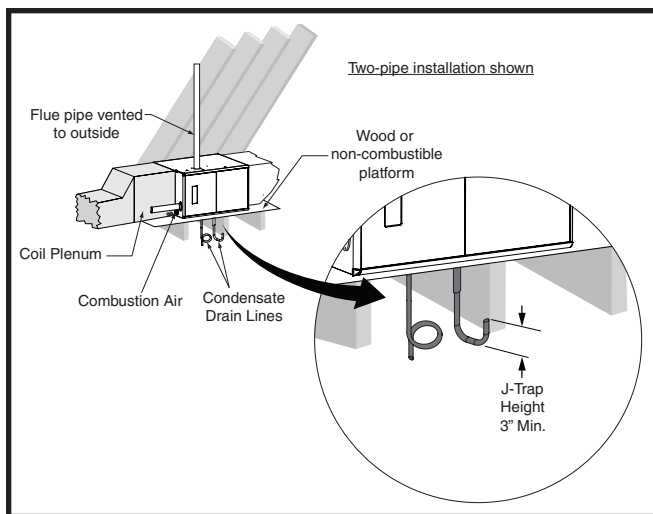
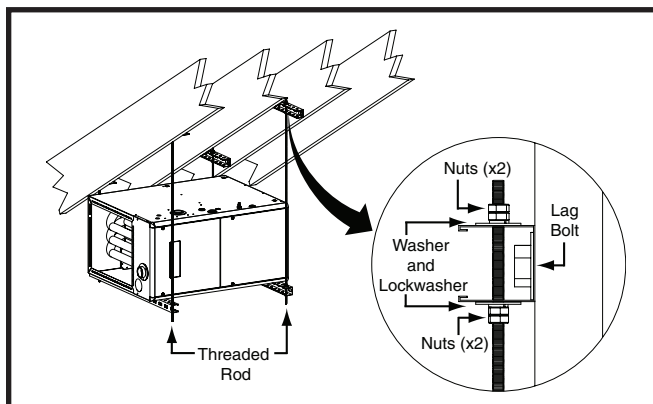

Figure 11. *SC & *SD Horizontal installation on a Platform
Figure 12. *SC & *SD Horizontally Suspended in an Attic
For Installations where there is limited clearance for the J-Trap (such as an attic where it may be installed between ceiling joists), either side of the J-Trap can be shortened to a minimum of 3 Inches. See Figure 11 \(page 15\).
*SC & *SD series gas furnaces can be installed horizontally (Figure 11) in an attic, basement, crawl space or alcove. It can also be suspended from a ceiling in a basement or utility room in either a right to left airflow or left to right airflow as shown in Figure 12 (page 15).
If installing the furnace with an evaporator coil (in an attic), it is required that a drip pan be placed under the furnace. If the installation is on a combustible platform as shown in Figure 11, it is recommended that the drip pan extend at least 12 inches past the top and front of the furnace.
If suspending the furnace from the ceiling, assemble a support frame (Figure 12) using slotted iron channel and full threaded rod. Fasten the frame together with nuts, washers, and lockwashers. Secure the support frame to the rafters with lag bolts. The furnace can also be suspended using steel straps around each end of the furnace. The straps should be attached to the furnace with sheet metal screws and to the rafters with bolts.